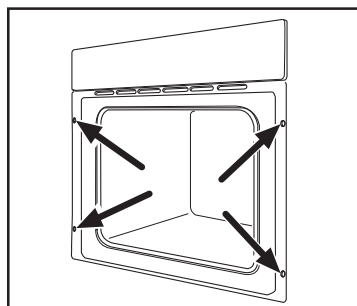

Fig. 11
- Open the oven door and secure the oven to the kitchen cabinet with four wood screws, which fit the holes provided in the oven frame (Fig. 11).